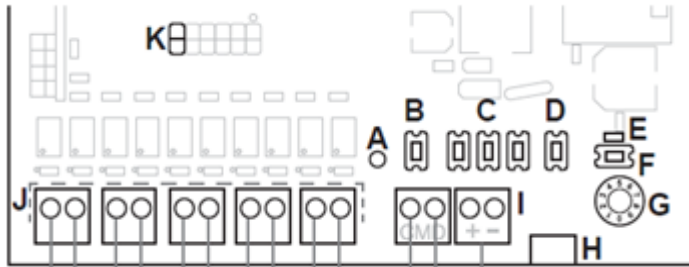

Fig.1
- 1.1.2 Select which type of switch will be connected (see fig.1)